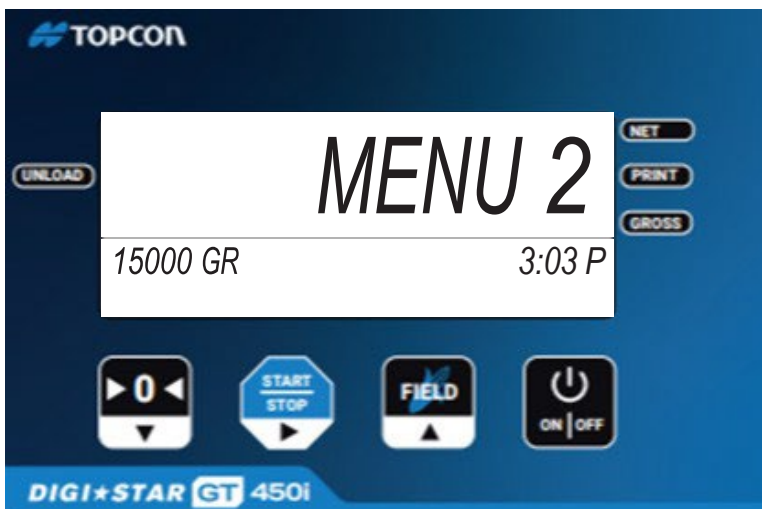

Figure 2-7: Unloading
2. Press **ON/OFF** to enter menu. Repeatedly press the **ON** key to step through the menu until **BTNAME** is reached. Press **FIELD (up arrow)** to scroll available characters. Hold **FIELD (up arrow)** for 4 seconds to increase scroll rate. (Figure 2-7).